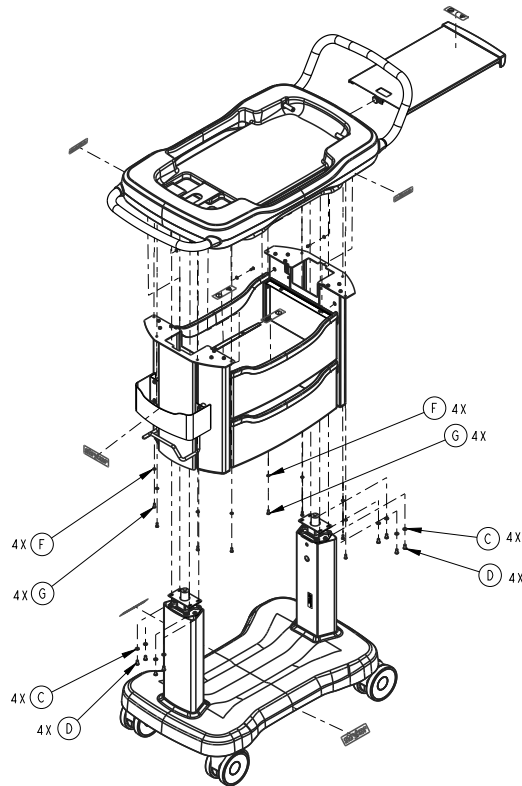

Figure 13 – Column and drawer assembly
1. Using a 1/8" hex wrench, remove the eight screws (G) and washers (F) that secure the column and drawer assembly to the top cradle bracket (Figure 13). Save the screws and washers.
3. Using a 5/32" hex wrench, remove the eight screws (D) and washers (C) that secure the cylinder bracket to the top cradle bracket on the gas cylinder (Figure 13). Save the screws and washers.